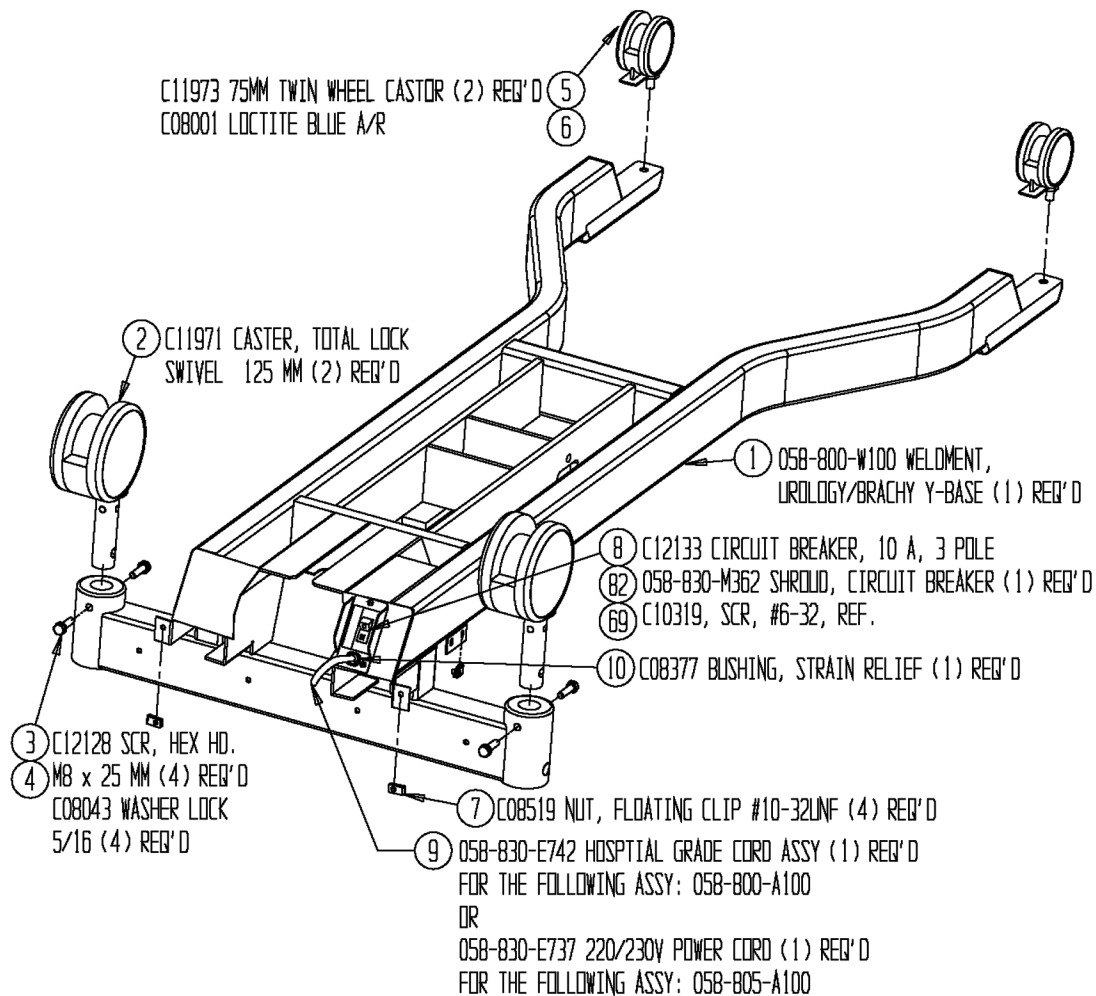

Figure 14.1 Caster Replacement
The two head casters lock simultaneously by depressing either the left or right pedal. They are connected via a hex shaft. (see Figure 14.1).
3. Remove the two 1/2-inch hex bolts from each of the caster mount and slide casters out. (see Figure 14.1)